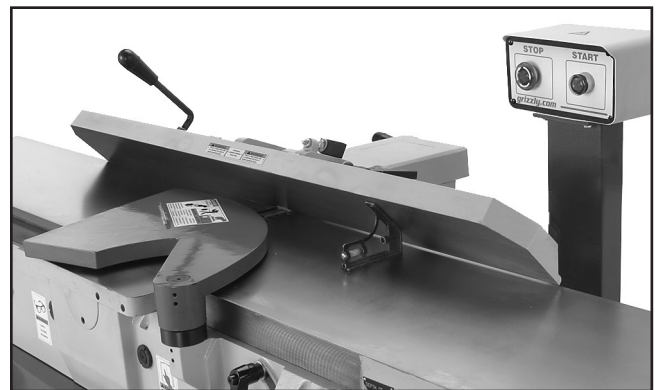

Figure 57. Fence adjusted 45° inward.
1. Tilt the fence approximately 45° inward (**Figure 57**) onto the positive stop bolts using a square.